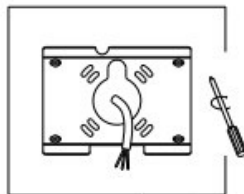

Figure 1-3
- 3.Align mounting bracket with hole; tightens screws.(Figure 1-3)